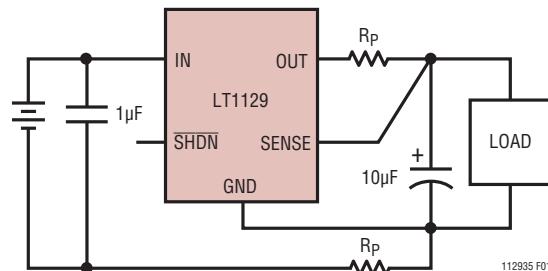

Figure 1. Kelvin Sense Connection
**Sense Pin:** For fixed voltage versions of the LT1129 (LT1129-3.3, LT1129-5) the sense pin is the input to the error amplifier. Optimum regulation will be obtained at the point where the sense pin is connected to the output pin. For most applications the sense pin is connected directly to the output pin at the regulator. In critical applications small voltage drops caused by the resistance ( $R_{\text{P}}$ ) of PC traces between the regulator and the load, which would normally degrade regulation, may be eliminated by connecting the sense pin to the output pin at the load as shown in Figure 1 (Kelvin Sense Connection). Note that the voltage drop across the external PC traces will add to the dropout voltage of the regulator. The sense pin bias current is  $15\mu\text{A}$  at the nominal regulated output voltage. This pin is internally clamped to  $-0.6\text{V}$  (one  $V_{\text{BE}}$ ).